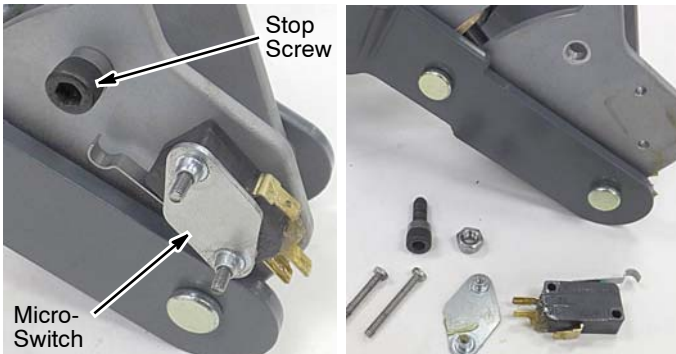

Fig. 2
3. Remove the micro-switch and the stop screw from the squeegee lift bracket (Figure 2)